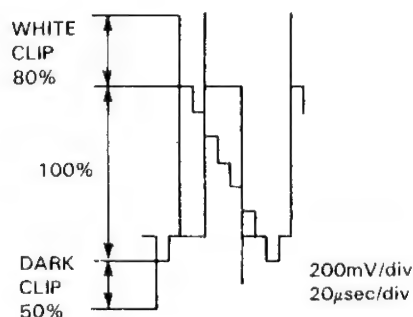

Figure 2-7.
3. Observing the output at TP201, adjust R224 (dark clip control) so that the dark peak overshoot be $50 \pm 4\%$. (See fig. 2-7.)